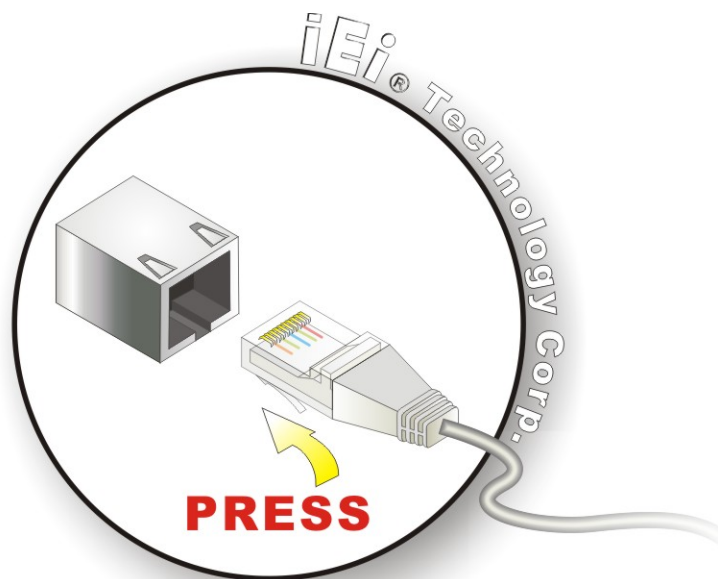

Figure 5-18: RJ-45 Ethernet Connector
Step 2: Insert an RJ-45 plug. Insert the RJ-45 plug of a LAN into the RJ-45 receptacle on the external peripheral interface. See **Figure 5-18**.